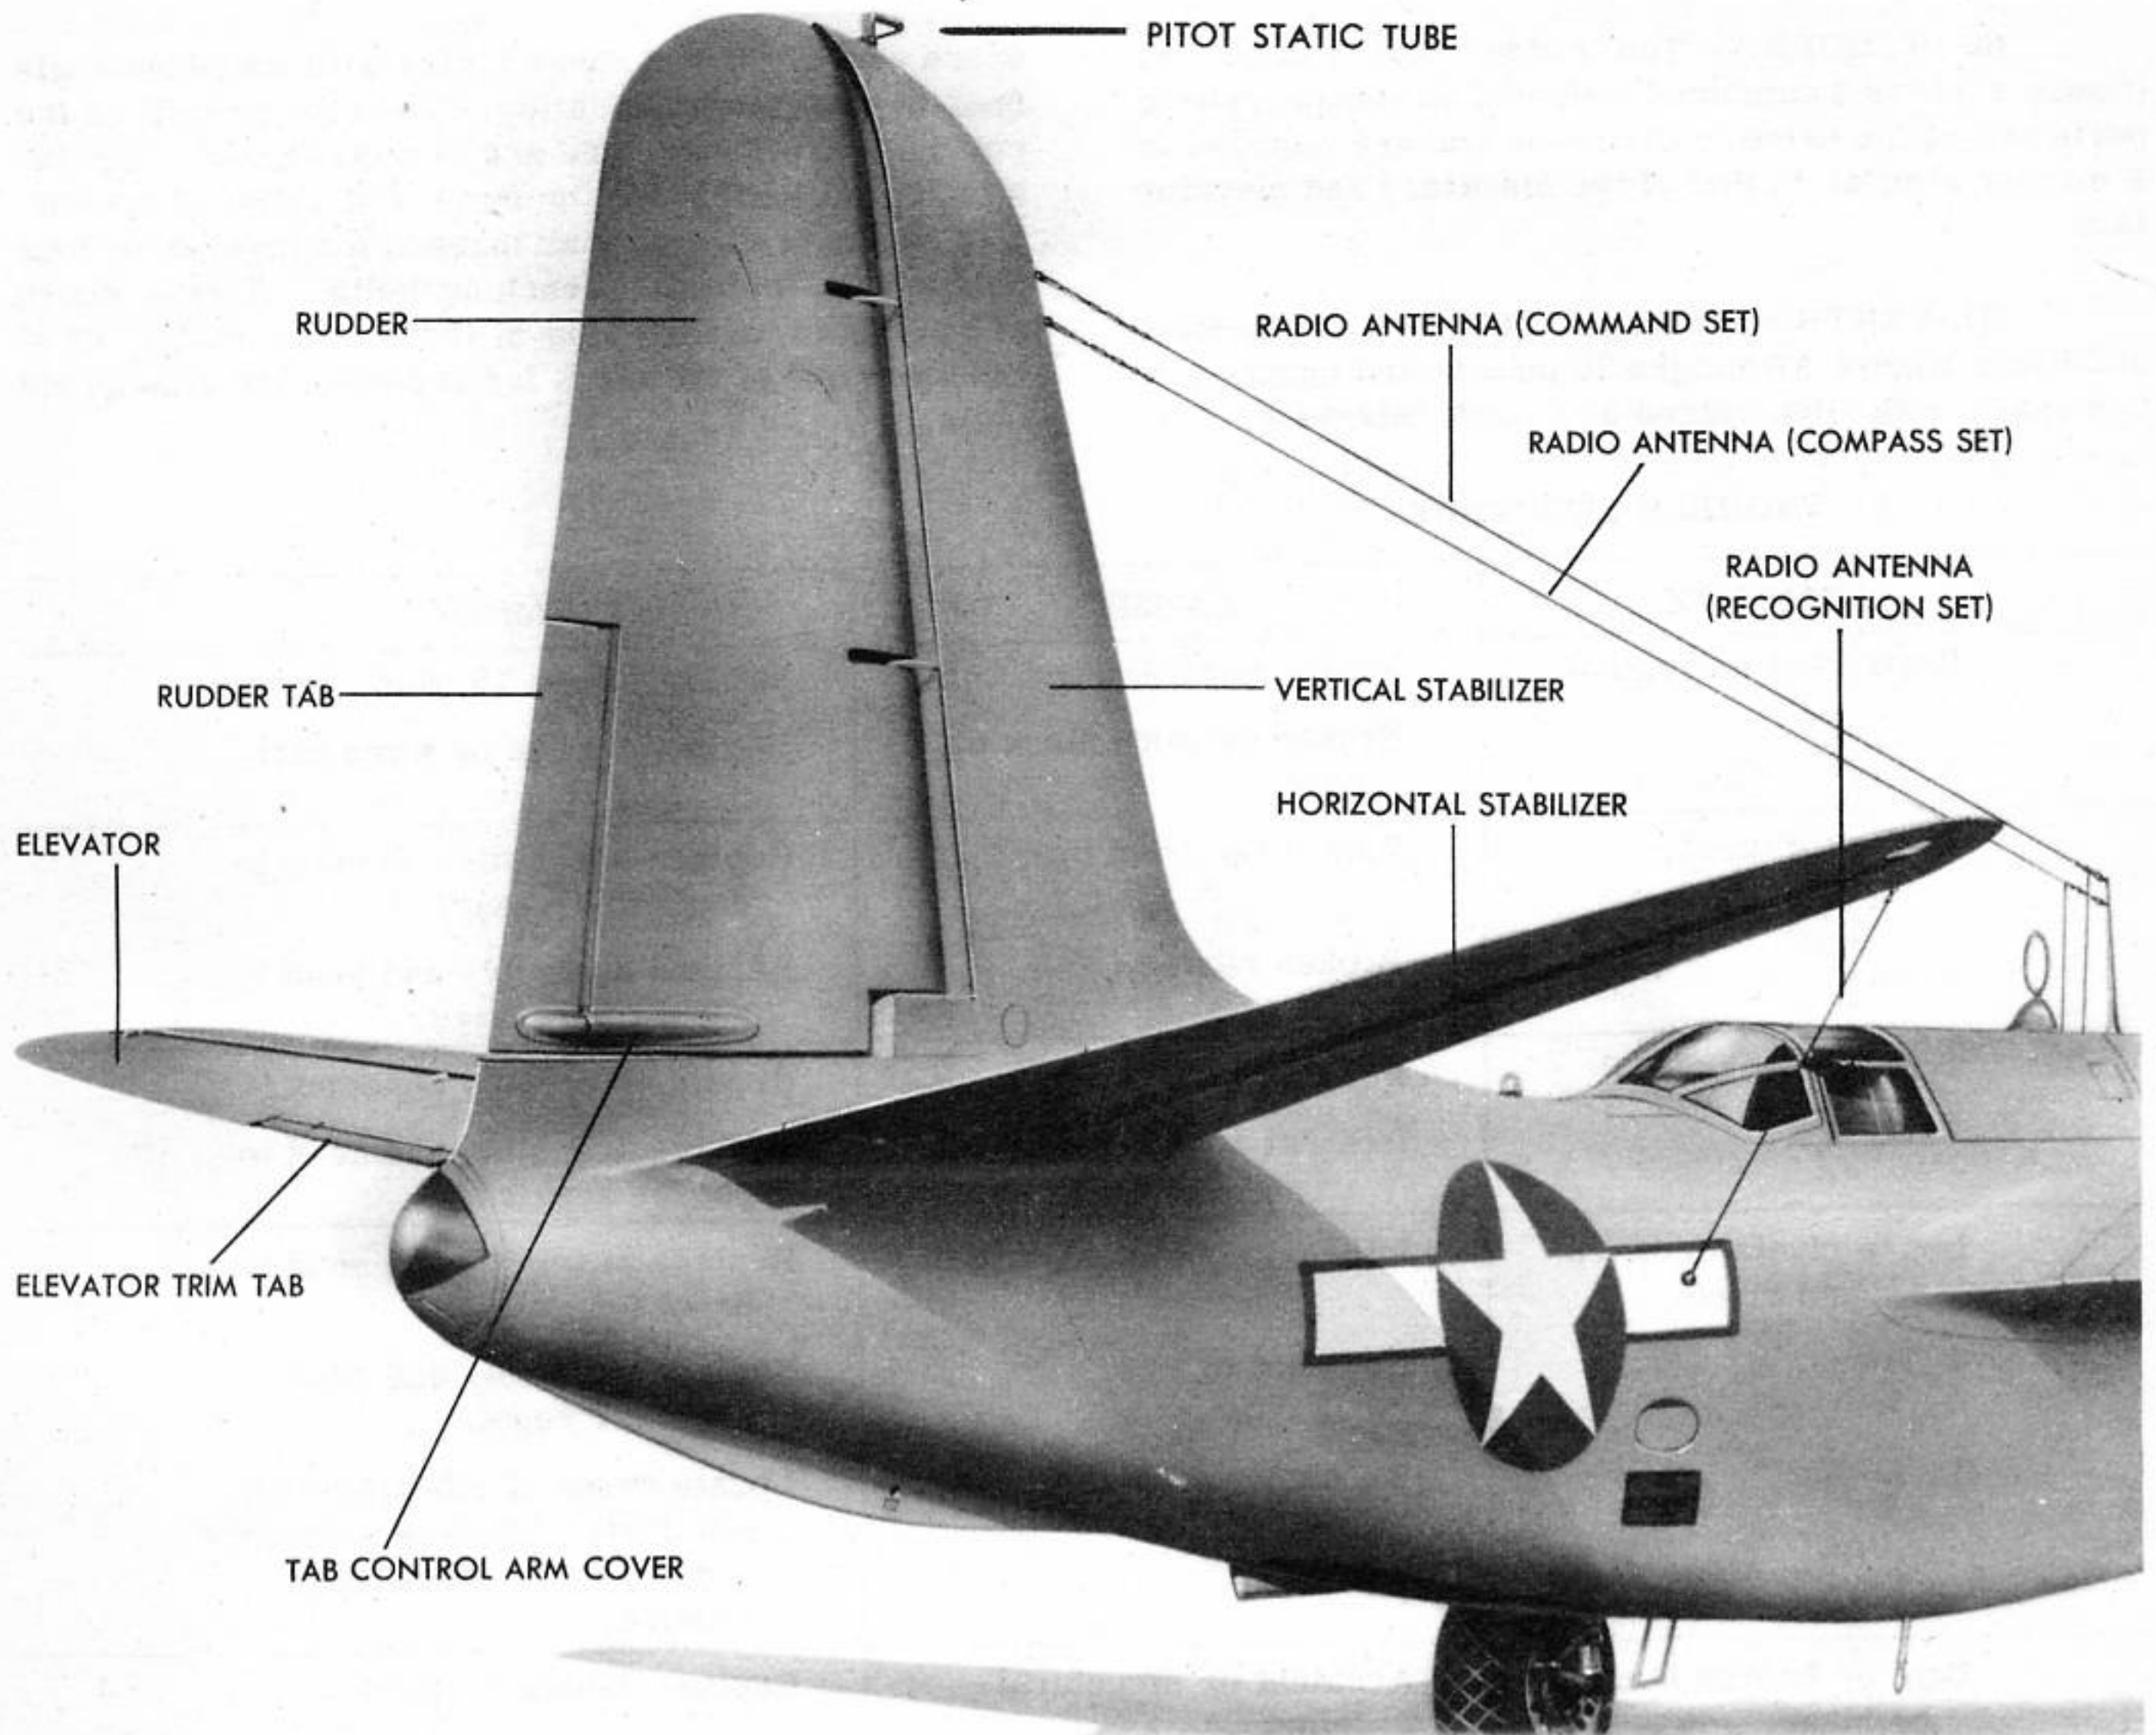

Figure 37 - EMPENNAGE
(1) GENERAL. - The empennage (figure 37) consists of a cantilever vertical stabilizer and horizontal stabilizer bolted in fixed alinement to the fuselage. Elevators and rudder are hinged to the horizontal and vertical stabilizers respectively. Trim tabs are hinged to the elevators and rudder. The purpose of the empennage is to aid in the control of the attitude of the airplane in flight.
(2) ELEVATOR TRIM TABS. - The elevator tabs (figure 37) have formed spars, ribs, and coverings of alclad sheet. They are of spot-welded construction and are hinged to the trailing edge of the elevators.
(3) **ELEVATORS.** - Each of the two elevators (figure 37) weighs 35 pounds and consists of a single spar of flange alclad sheets with ribs formed of the same material. The leading edge is covered with alclad sheet, and the complete assembly is covered with fabric. Each elevator is hinged to the horizontal stabilizer at two points. A trim tab is attached to the trailing edge of each elevator by two hinges and its actuating rod. A torque tube which incorporates a control horn for attaching the cables is attached to the inboard end of each elevator and connects the elevators to the universal joint at the center line of the fuselage. Design of the elevators is such that the right-hand and left-hand elevators may be interchanged in an emergency.
(4) **HORIZONTAL STABILIZER.** - Each half of the horizontal stabilizer (figure 37) weighs 42 pounds
(5) **RUDDER TAB.** - The rudder tab (figure 37) is hinged to the trailing edge of the rudder. Its construction is the same as the elevator trim tabs.
(6) **RUDDER.** - The rudder and rudder tab (figure 37) have a combined weight of 83 pounds. These parts are of the same construction and are mounted in a manner similar to that of the elevators and elevator tabs.
(7) **VERTICAL STABILIZER.** - The vertical stabilizer (figure 37) weighs 70 pounds and consists of two spars with ribs spaced at 6-inch intervals. The